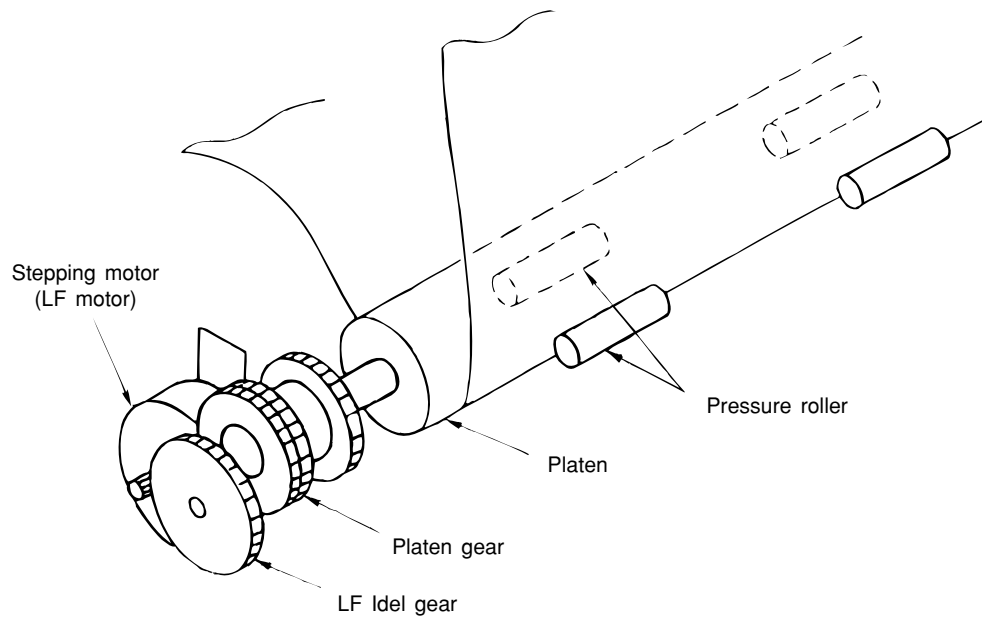

**Figure 2-8**
(1) Cut sheet and continuous sheet switching mechanism (See Figure 2-8.)